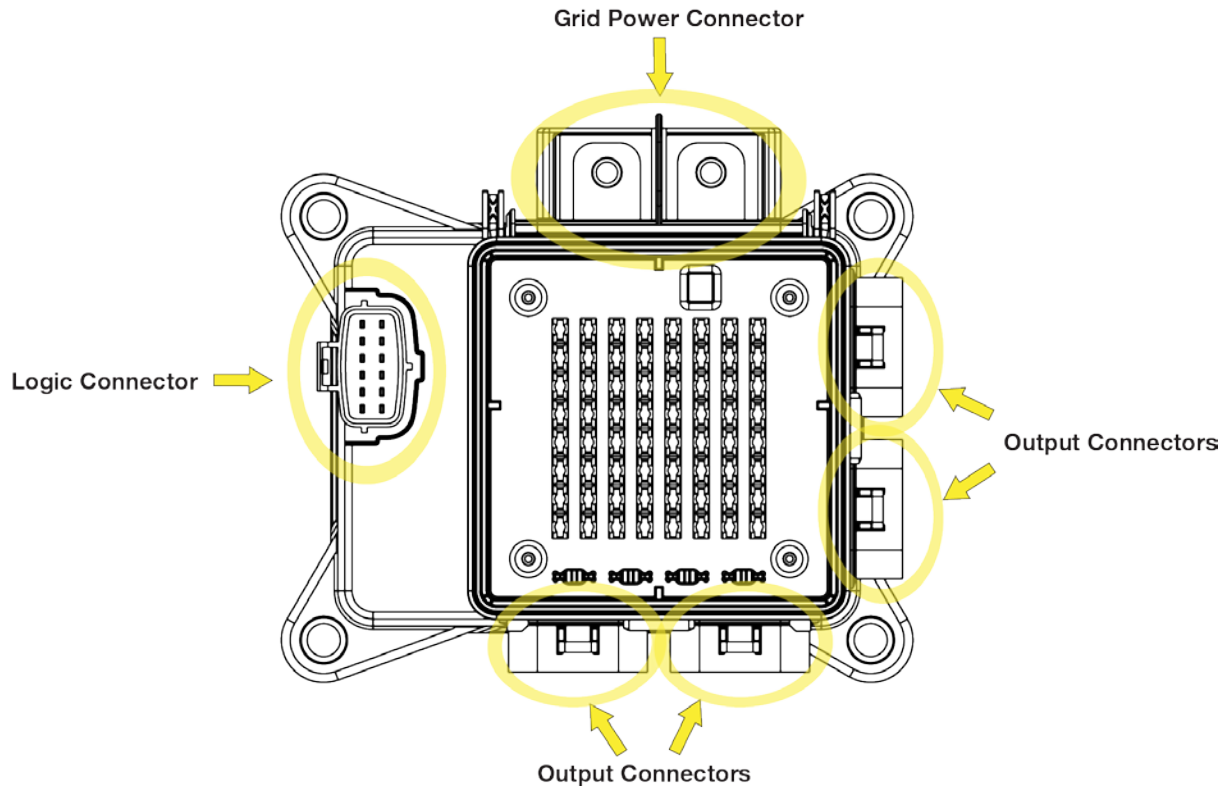

Figure 5. Grid Connector Location Diagram (new diagram text)
- You can have up to four different output connectors on your mVEC (refer to Figure 5).